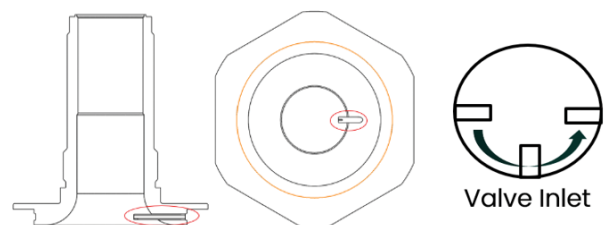

Figure 47: Integral Sense Nozzle Assembly
1. Insert Integral Sensing Tube into nozzle from the exterior of flange until hand tight. Tighten until the slot in the tube is pointing to the inlet side of the nozzle within a 180 degree window shown in Figure 47.